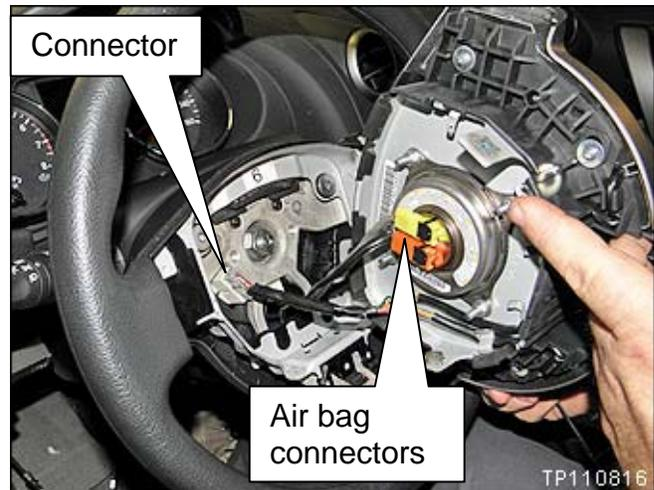

Figure 6
5. Disconnect the electrical connectors shown in Figure 6.